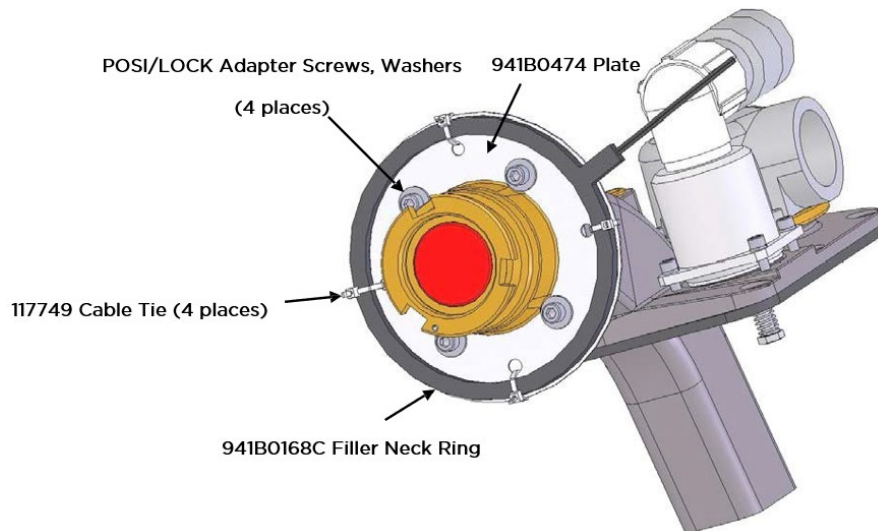

Figure 3. POSI/LOCK without a Cap with 941B0168C Filler Neck Ring Installed
1. Remove the four screws and washers which attach the POSI/LOCK adapter to the POSI/LOCK filler neck housing (Figure 3).